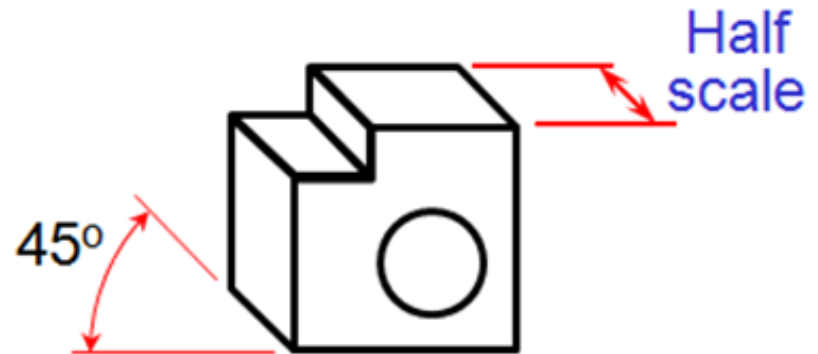

Fig PF-4-1-20 – Oblique Drawings
- There are two types of oblique drawings, cavalier and cabinet (see **Fig PF-4-1-20**).